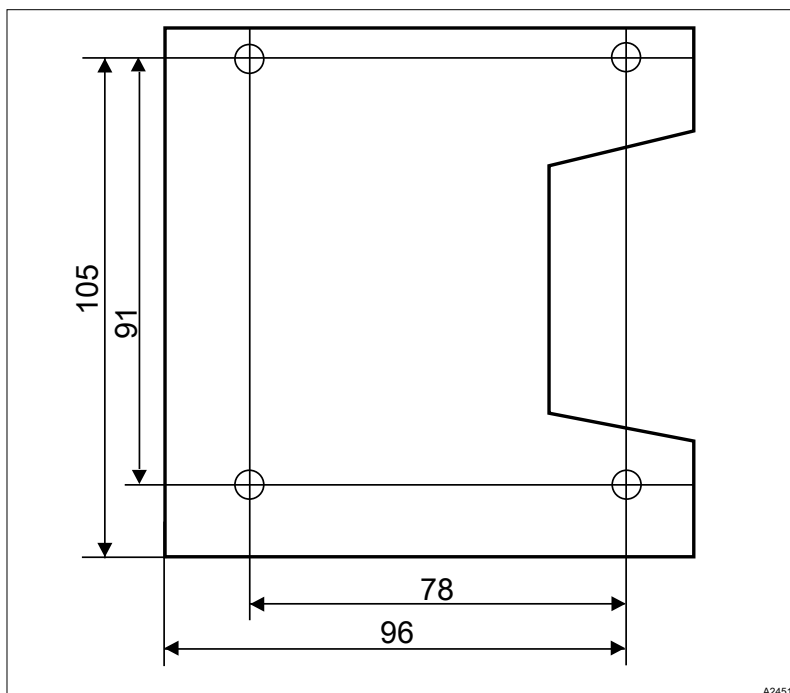

Fig. 4: Drilling template for the base plate, all dimensions in mm, tolerance ± 0.5 mm.
3. ➤ Fix the pump onto a sufficiently load-bearing base surface, taking the drilling dimensions from Fig. 4. Provide the fittings on site.